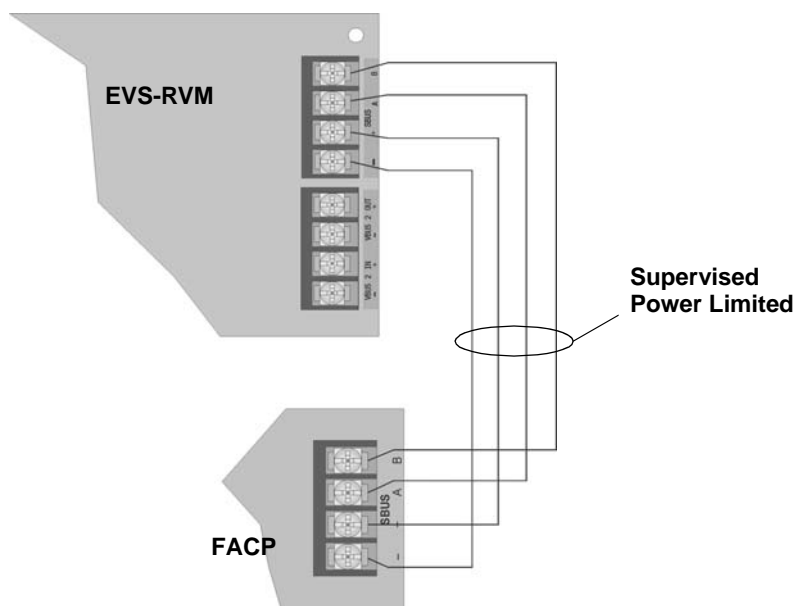

Figure 4-51 SBUS Connections
1. Refer to Figure 4-51 to properly connect the EVS-RVM to the FACP's SBUS.
2. Disconnect the SBUS connections from the SBUS terminals on the EVS-RVM. See Figure 4-51.